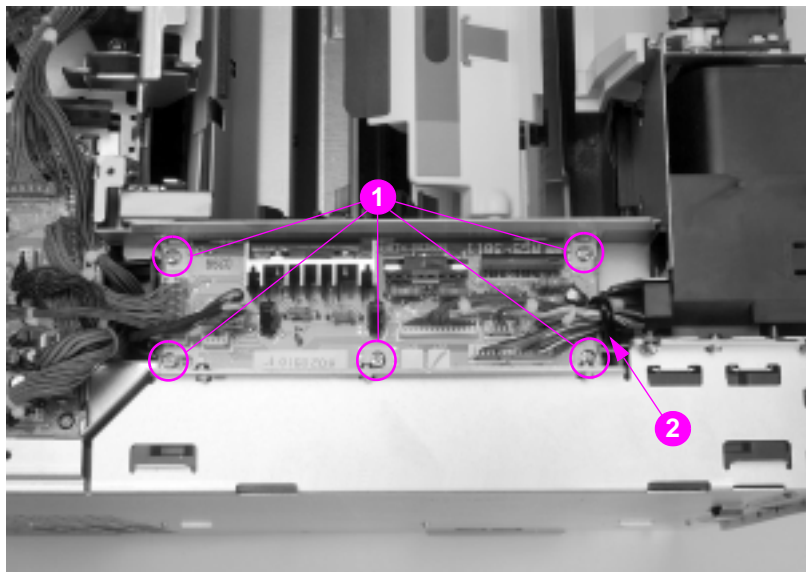

Figure 6-17 Developing board removal and replacement (2 of 2)
- 6 Remove the five screws from the developing PCB as shown in Figure 6-17 (callout 1).